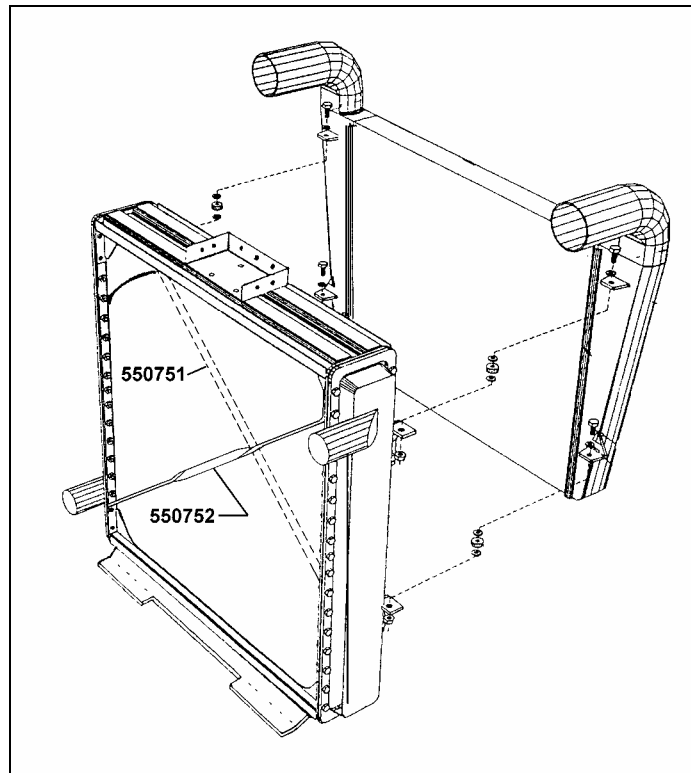

FIGURE 4: STIFFENING RODS
5. Separate air cooler from radiator in order to insert stiffening rod (Prévost #550751) between air cooler and radiator (refer to fig. 4).
Note: Install both stiffening rods in a criss-cross pattern (refer to fig. 4).